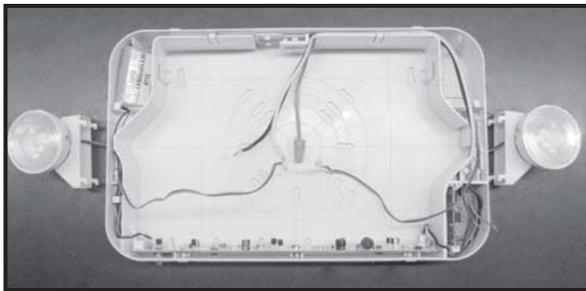
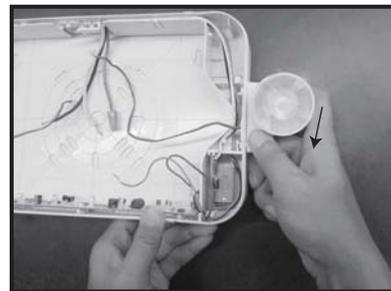

Figure 1
Figure 2
5. Ensure blue and yellow lamp head wires are routed through side lamp head mounting holes (Fig 1). Attach first lamp head to housing by aligning tabs on lamp head assembly to lamp head mounting slots on frame of housing (Fig 2). Gently push lamp head down toward bottom of housing to lock into place. An audible click should be heard. Repeat to install the second lamp head.
7. Ensure blue and yellow lamp head wires are routed through side lamp head mounting holes (Fig 1). Attach first lamp head to housing by aligning tabs on lamp head assembly to lamp head mounting slots on frame of housing (Fig 2). Gently push lamp head down toward bottom of housing to lock into place. An audible click should be heard. Repeat to install second lamp head.
8. Ensure blue and yellow lamp head wires are routed through side lamp head mounting hole (Fig 1). Attach lamp head to housing by aligning tabs on lamp head assembly to lamp head mounting slots on frame of housing (Fig 2). Gently push lamp head down toward bottom of housing to lock into place. An audible click should be heard.